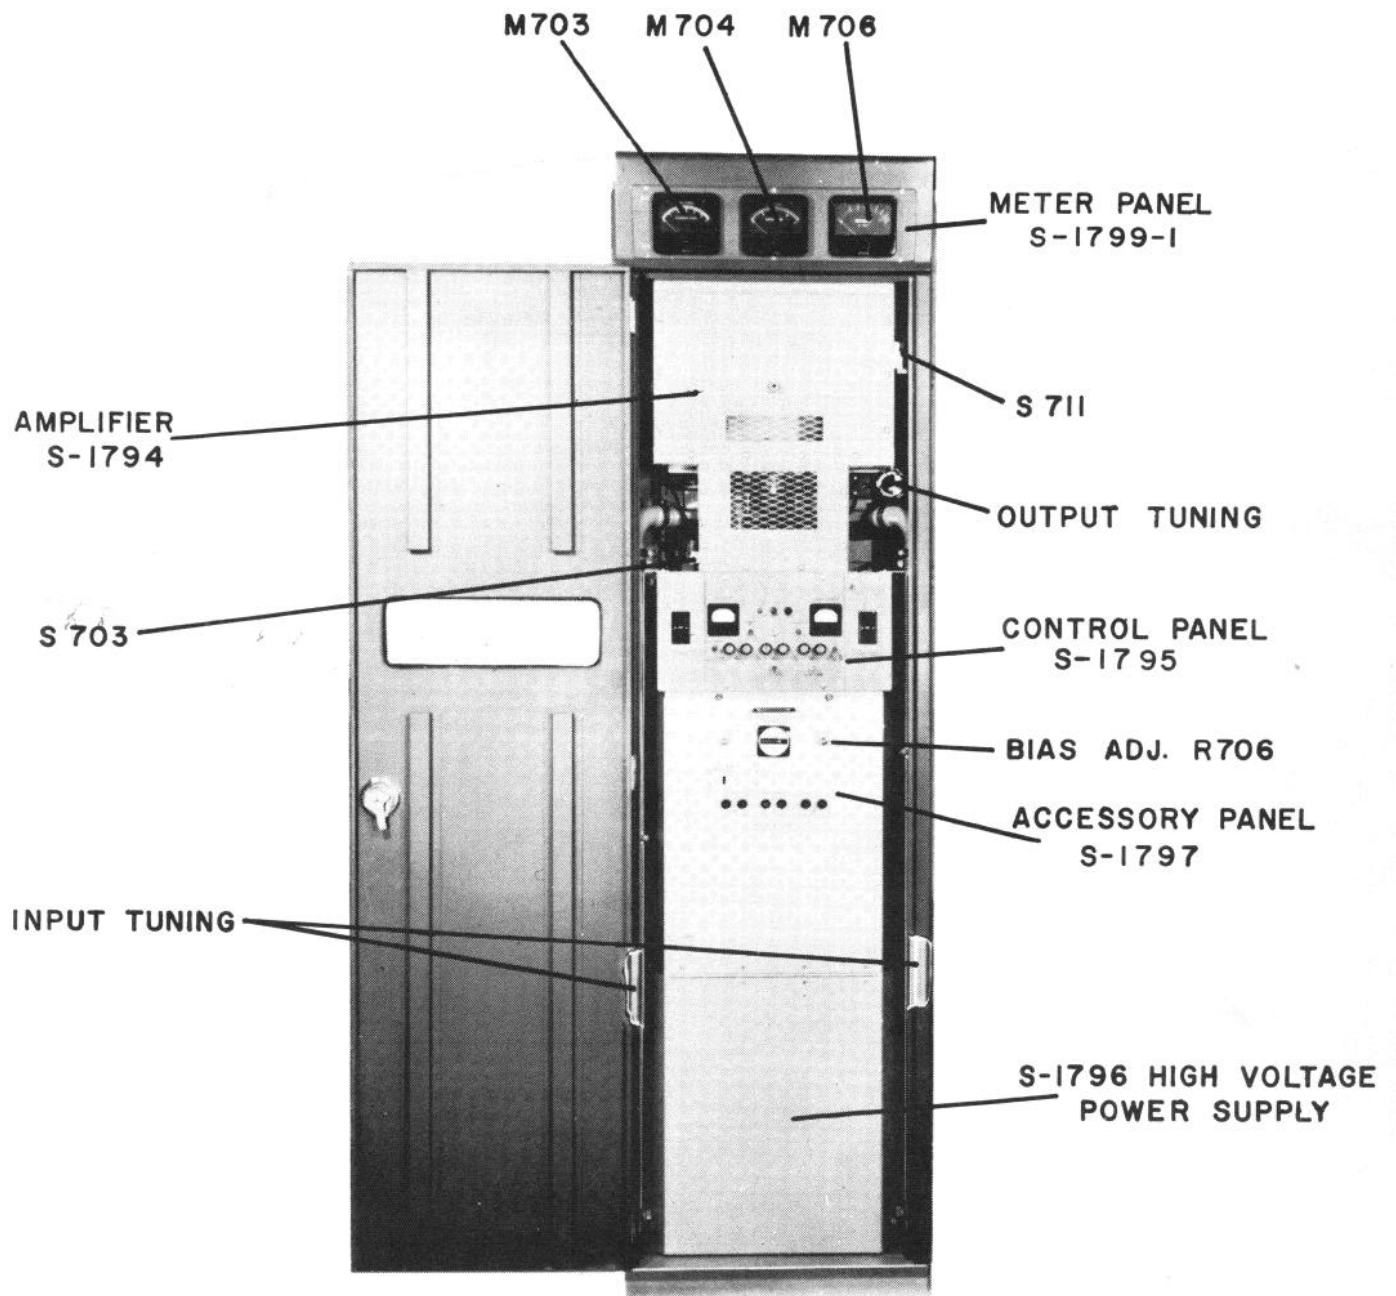

FIG. 5-1 TYPE 938 F.M. 5KW AMPLIFIER, FRONT VIEW
- 4-12. The control panel, see Figure 5-1 and 5-8, mounts all controls, protective circuit breakers and fuses required for normal operation. The panel is accessible whether the front door is open or closed. Fuses F701 and F702 10 ampere serve to protect blowers B701 and B702. Fuses F703 and F704 5 ampere protects the filament transformer T201. Fuses F705 and F706 1 ampere are in series with the interlock circuit and the primary of bias power supply transformer T702.